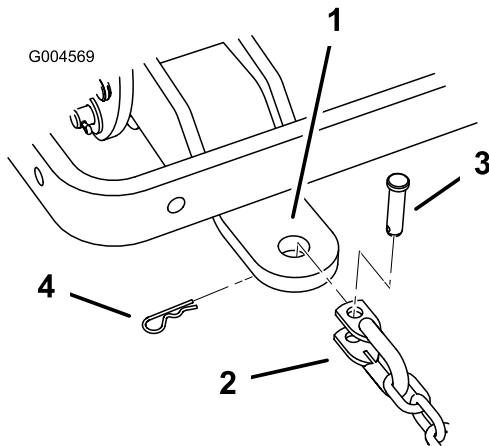

Figure 2
1. Install one end of the chain to the tow bar using a shackle, clevis pin (3/8 x 1-1/2 inches) and cotter pin (Figure 2).